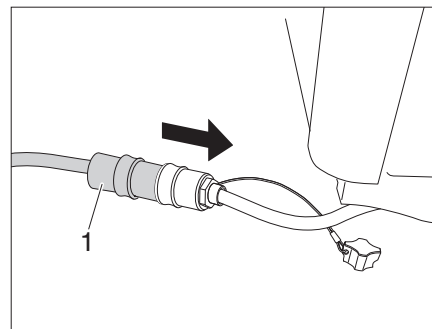

Fig. 61 Connecting the extension cable
- Connect the extension cable (Fig. 61,1) to the kitchen unit and to the electrical connection in Campster entry.
- ▷ Use the extension cable (Fig. 61,1) only when using the kitchen unit outdoors.